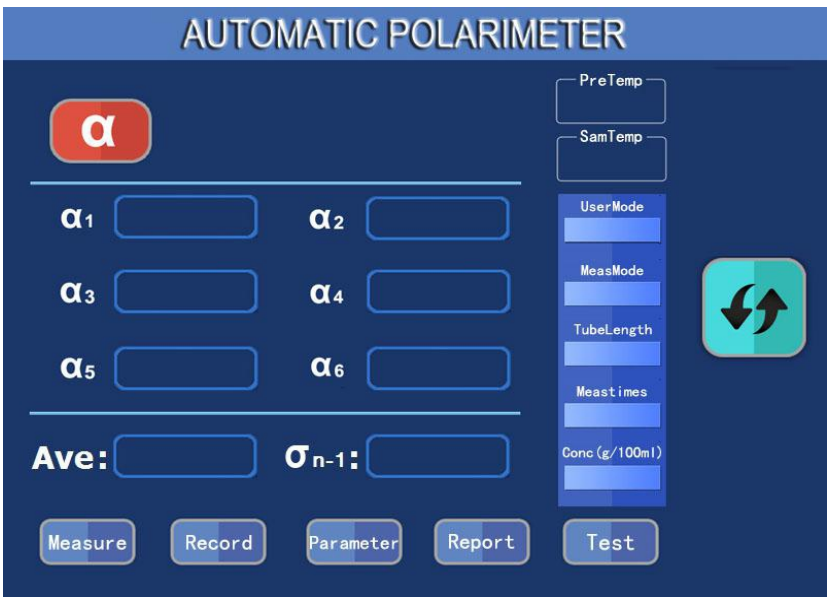

Figure 3
1. **ENTER THE INITIALPAGE (FIGURE 3)**